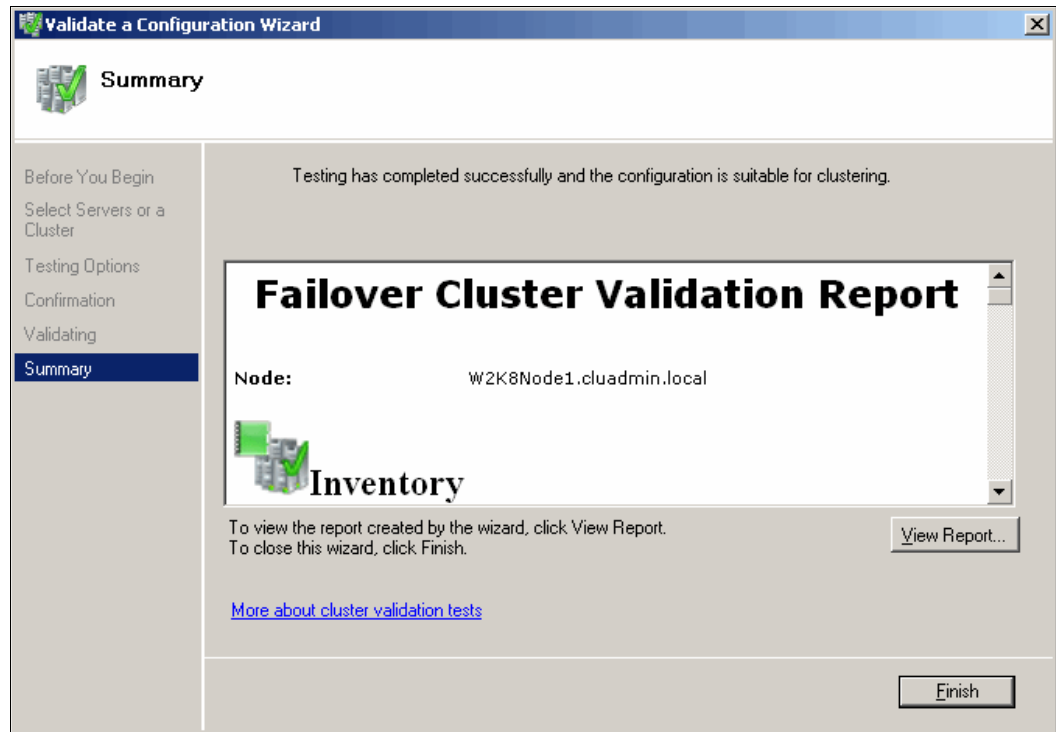

Figure 19-16 Failover Cluster Validation Report
4. The Failover Cluster Validation Report shows the successful validation of our configuration as shown in Figure 19-16 on page 570. Click **Finish** to complete the task.